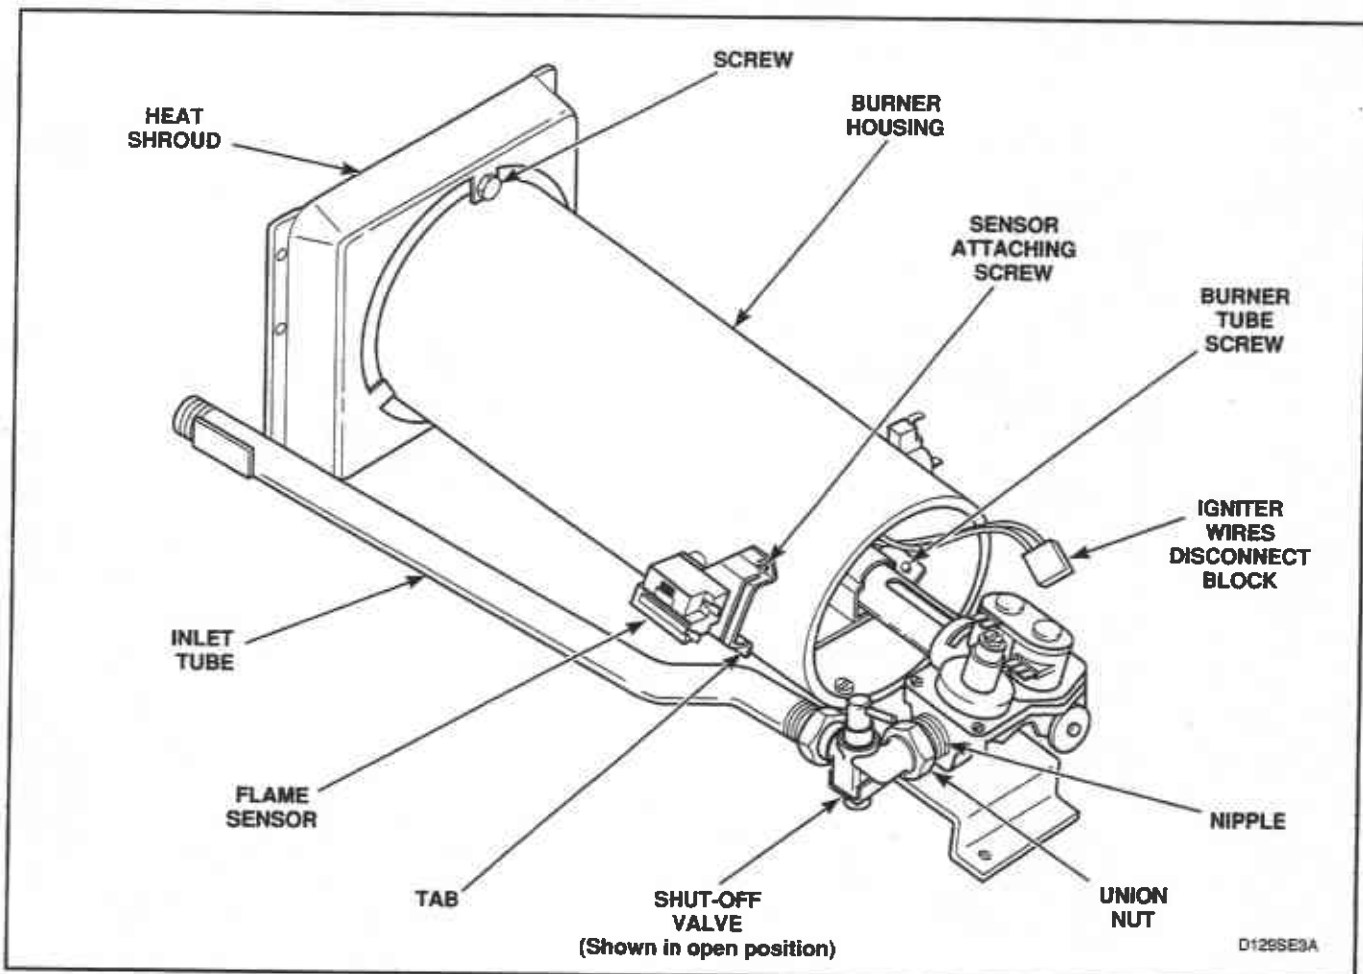
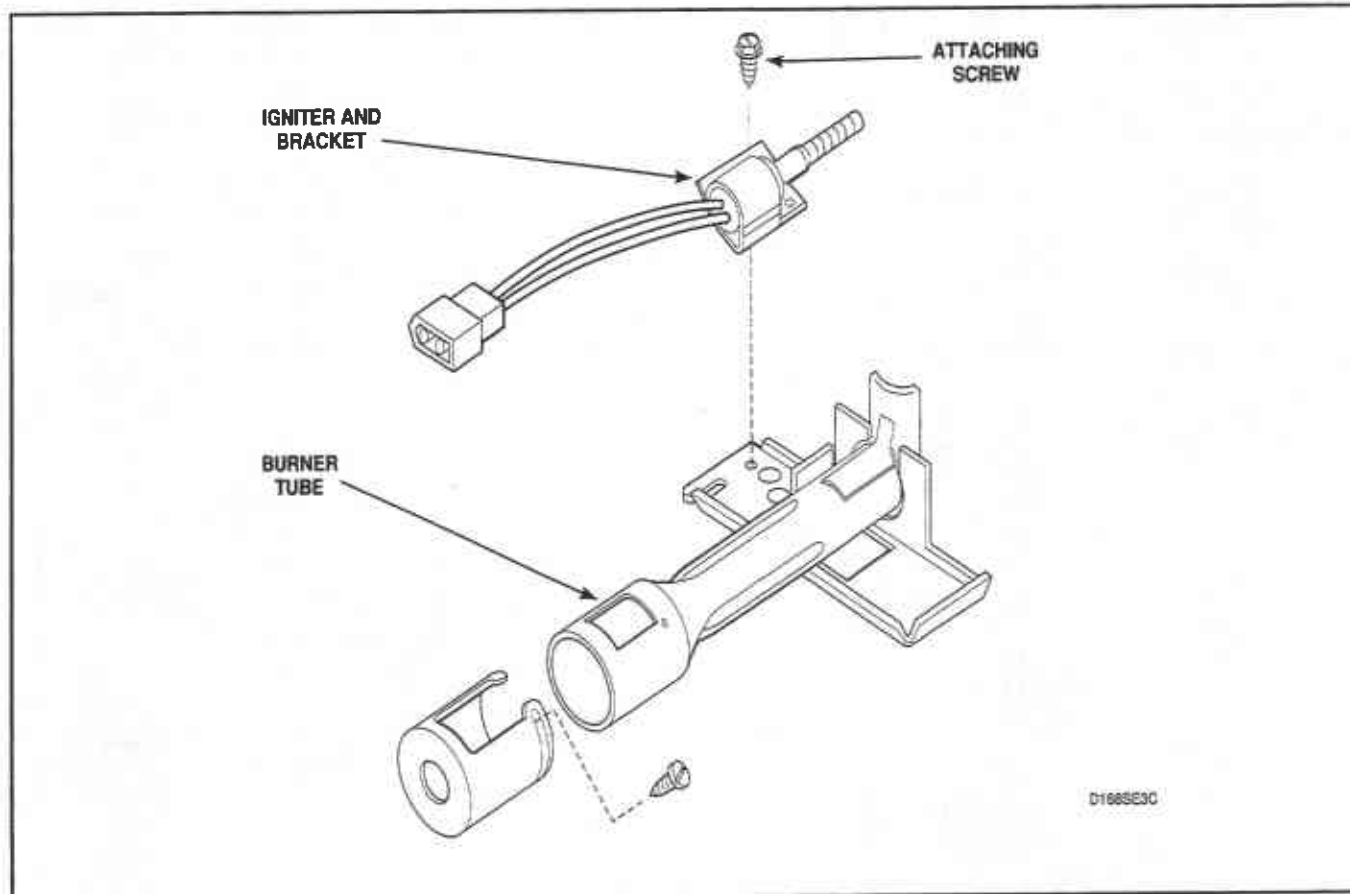

Figure 20
Figure 21
- (2) Gently lower the access panel to disengage guide lugs from bottom edge of front panel.
- (3) Close gas shut-off valve, disconnect igniter wires at disconnect blocks, sensor wires from flame sensor terminals, and wires from gas valve coils at the quick disconnect blocks, *Figure 20*.
- (4) Disconnect gas shut-off valve from gas valve at the union nut, *Figure 20*.
- (5) Remove three screws holding valve and mounting bracket to base, *Figure 20*.
- (6) Lift gas valve and mounting bracket from base, *Figure 20*.
- (2) Gently move burner tube toward rear of dryer to disengage tab from slot on left side of burner housing, *Figure 20*.
- (3) Carefully rotate burner tube and igniter **counterclockwise** so tab is at 8 o'clock position.
- (4) Move air shutter end of burner tube slightly to right and CAREFULLY remove burner tube and igniter assembly out through front of dryer.
- (5) Remove screw holding igniter and bracket to burner tube and remove igniter and bracket, *Figure 21*.
c. Flame Sensor, *Figure 20*.
- (3) Remove wires from sensor terminals, *Figure 20*.
- (4) Remove screw holding sensor to burner housing, *Figure 20*.
- Disconnect igniter wires at disconnect blocks, sensor wires from flame sensor terminals, and wires from gas valve coils at the quick disconnect blocks, *Figure 20*.
- Gently move burner tube toward rear of dryer to disengage tab from slot on left side of burner housing, *Figure 20*.
- Remove screw holding burner housing to heat shroud, *Figure 20*.